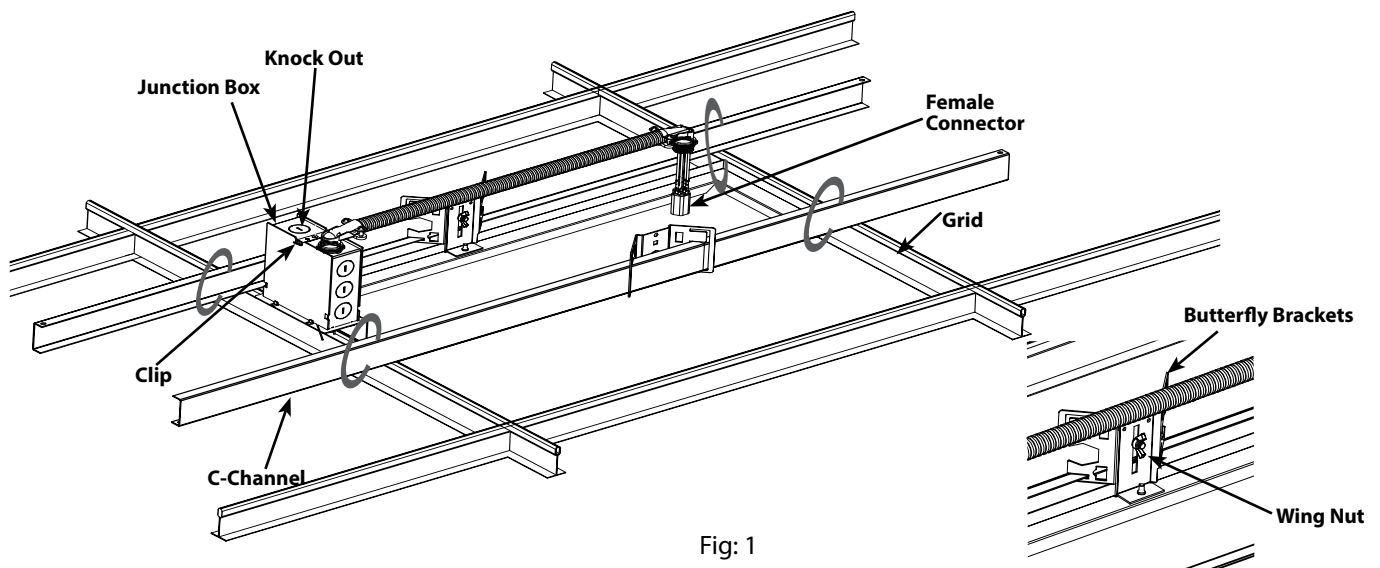

Fig: 1
3. Position the frame on C-Channel and secure C-Channel to the Grid as shown in Fig 1.
6. For different ceiling thickness, loosen the **Wing Nut** and slide the **Butterfly Bracket**. If necessary remove the **Wing Nut**, insert and screw in different hole provided on the **Butterfly Bracket** (Fig:1). Adjust so that the **Frame** is flush with the finished ceiling surface. Tighten the **Wing nuts**.